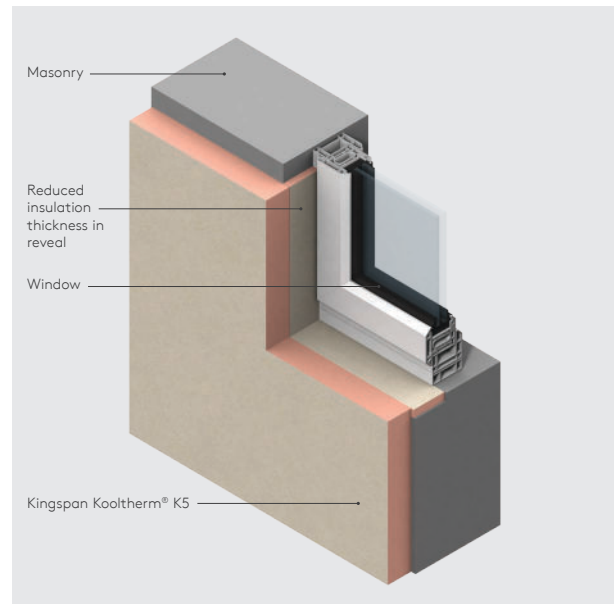

Figure 7
- Reveals should be designed to accommodate the 25 mm of Kingspan Kooltherm® K5 required to achieve a minimal thermal resistance of 0.6 m²K/W, and the depth of the cladding system (see Figure 7).
- Care should be taken to install the specified thickness of insulation around reveals (see Figure 7).